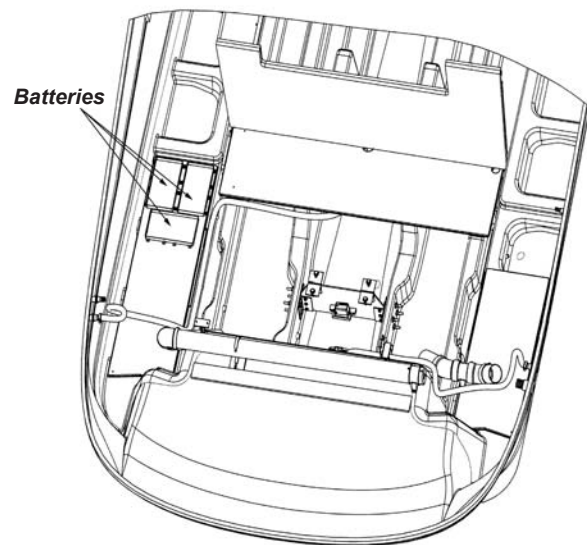

Figure H-1: Triple Battery System
1. Connect each of the red (positive) battery cables leading from the battery selector switch to the positive (+) terminal on each of the three batteries. Refer to Figure H-1.